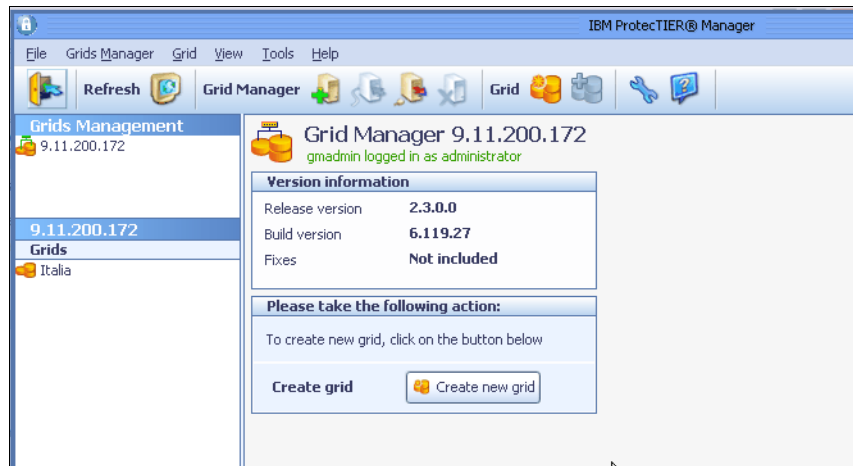

Figure 5-98 ProtecTIER Replication Manager Create new grid window
5. After you are logged in, click **Create new grid** (Figure 5-98).